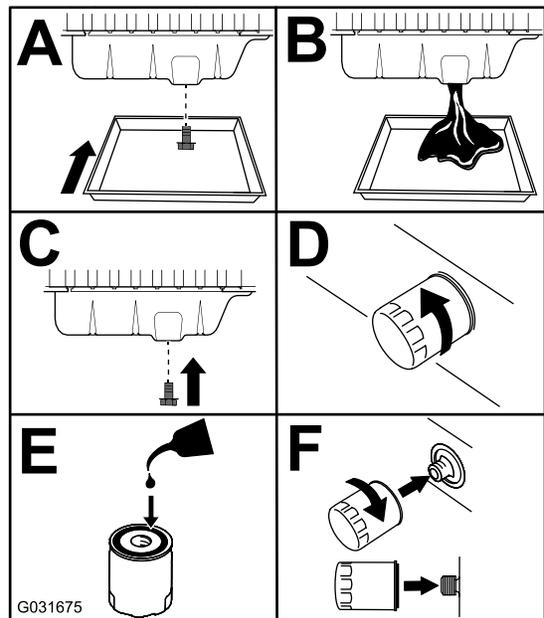

Figure 77
3. Replace the engine oil and filter (Figure 77).